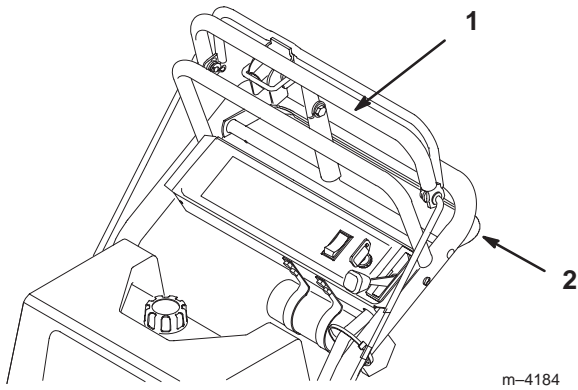

Figure 20
- Slowly press on the upper control bar to move forward (Fig. 20).
To go straight, apply equal pressure to both ends of the upper control bar (Fig. 20).
To turn, release pressure on the upper control bar side away from the direction you want to turn (Fig. 20).
3. Slowly squeeze the lower control bar and handle together to move rearward (Fig. 20).